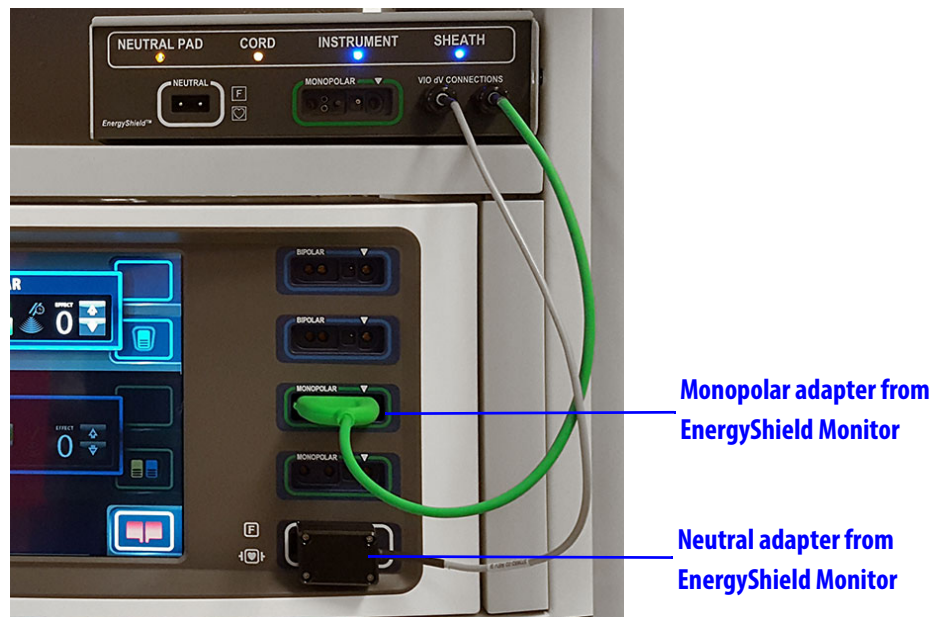

Figure 8.10 Check EnergyShield Monitor neutral adapter and monopolar adapter connections to VIO dV
3. Verify that the neutral adapter from the EnergyShield Monitor is plugged into the neutral port on the VIO dV (Figure 8.10). Confirm that the connector cannot be pushed further into the neutral port.
4. Verify that the monopolar adapter from the EnergyShield Monitor is plugged into a monopolar port on the VIO dV (Figure 8.10).